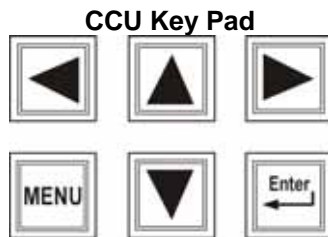

Figure 2-9
3. Press the <MENU> key on the CCU for accessing password menu. [See Figure 2-9.]